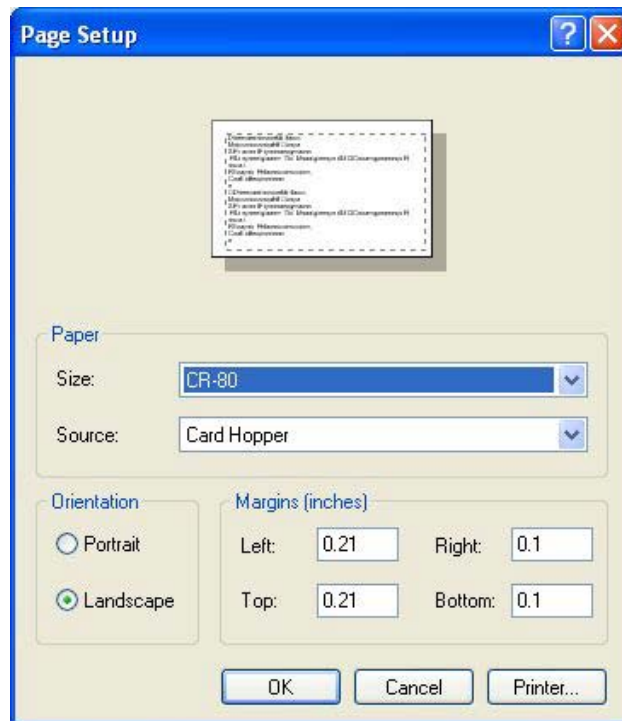

Figure A-1. Page Setup Dialog
6. From the card layout screen click **Print Setup** button. This opens the **Page Setup** dialog (Figure A-1). Click **Printer** button to open a dialog where you can select the printer from a list of available printers.